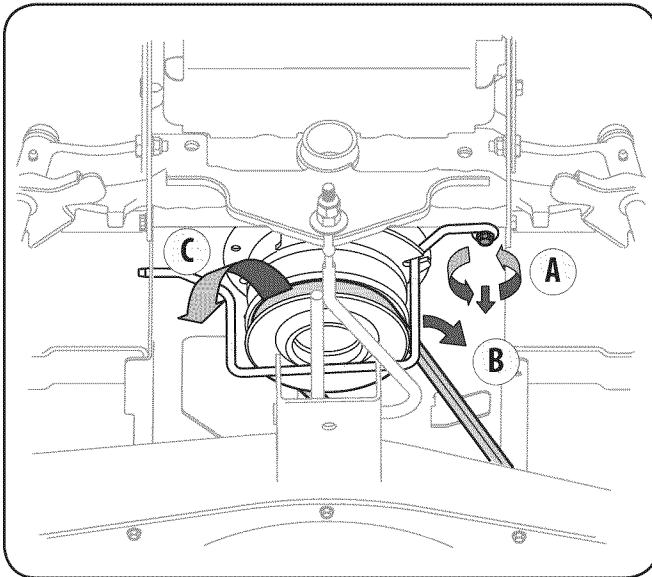

Figure 7-1
3. Remove the deck belt. See Fig 7-1..
CAUTION: When reattaching the belt keeper rod, make certain that it goes through the slot located on the electric PTO's left-hand side. Refer to Fig 7-1. Failure to do so may result in serious damage to the PTO clutch and/or the tractor's wiring harness.